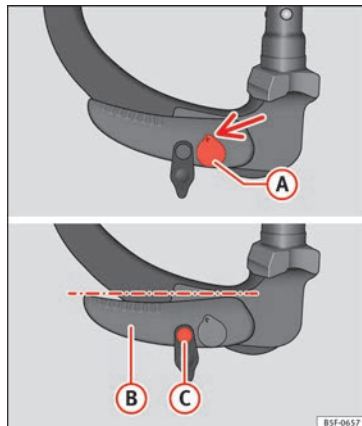

Fig. 216 Standby position: Position of the lever and the release bolt.
- Key ① »» Fig. 216 is in the released position (the part of the key with the holes is facing upwards).
- Lever ② »» Fig. 216 is in the bottom position.
- The release bolt ③ »» Fig. 216 can be moved.